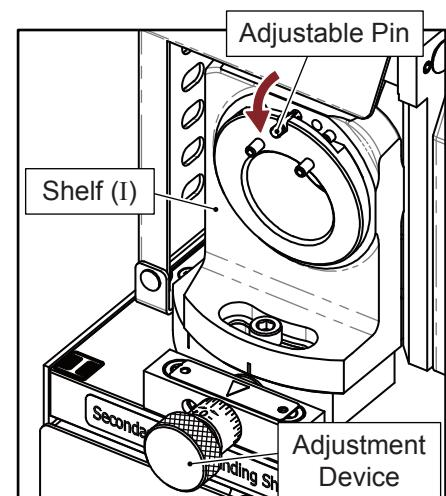
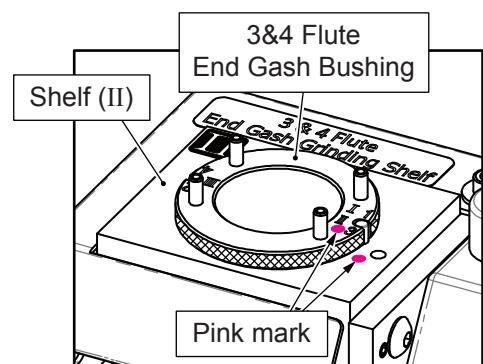

Fig. 11-1
Fig. 11-2
1. Secondary Relief Grinding Shelf (I) (Fig. 11-1)
- ① Move the adjustable pin on Shelf (I) from the top to bottom.
- ② Adjust the Cutting face adjustment device to "0", after finishing the whole sharpening procedure, then adjust this device according to your needs. (See chapter "XIV. The use of the Cutting Face Adjustment Device")
### 2. End Gash Grinding Shelf (II) (Fig. 11-2)